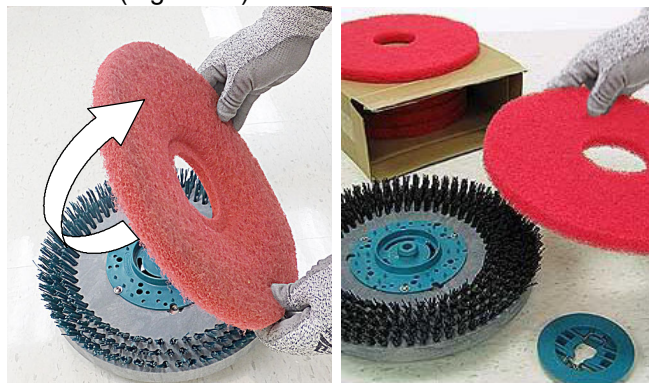

FIG. 55
4. Disk scrub head - Turn pad over or replace when worn (Figure 55).